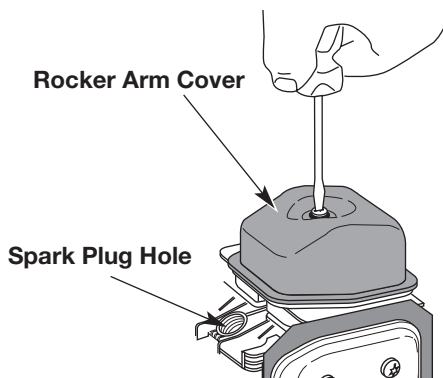

Fig. 53
7. Clean dirt from around the rocker arm cover. Remove the screw holding the rocker arm cover with a large flat blade screwdriver or Torx T-25 bit (Fig. 53). Remove the rocker arm cover and gasket.
- The piston is at the top of its travel while looking in the spark plug hole (Fig. 53)